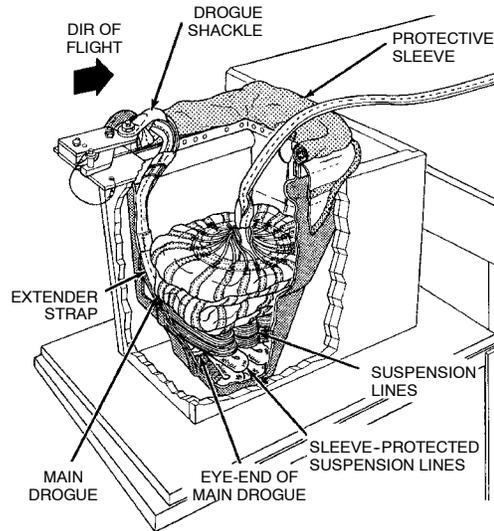

Figure 31. Removal of Shot Bags
d. Pack stabilizer drogue suspension lines on top of packed drogue sleeve protected suspension lines, routing them from left to right of container. Ensure that drogue suspension lines are properly routed and free of entanglements. (QA)
e. Remove shot bags from folded stabilizer drogue. Grasp folded stabilizer drogue canopy at lower edge. Insert canopy into container on top of packed suspension lines, butting canopy skirt hem against rear of container. Continue stowing canopy into container using accordion folds from front to rear, packing each fold as tightly as possible and finally opening out apex of drogue to lie flat on top (Figure 31).